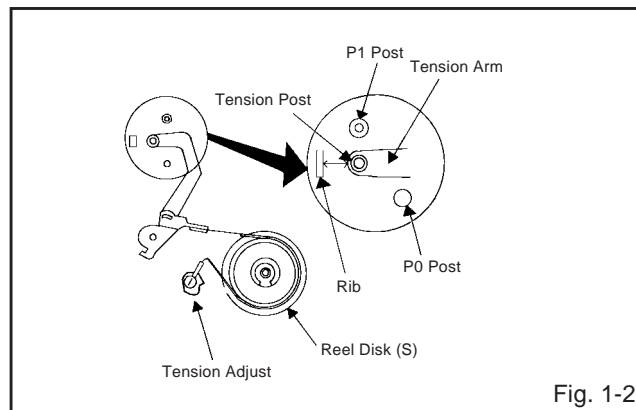

Fig. 1-2
1. Turn on the power and set to the PLAY mode adjust the Tension so that the Tension Post is at the position of  $0.3\text{mm} \sim 0.5\text{mm}$  from the Rib. (**Refer to Fig. 1-2**)